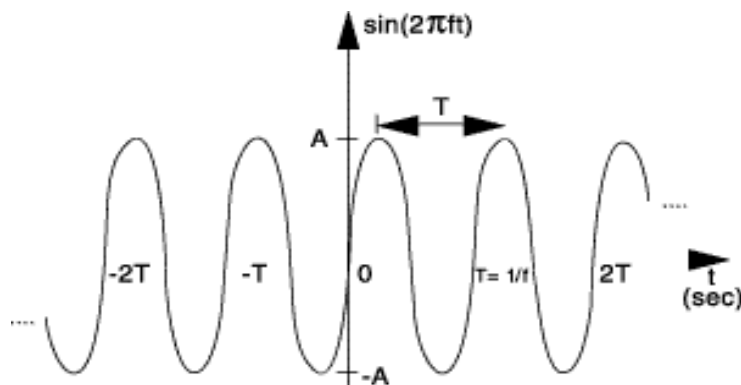

Figure A-2. Sine wave with amplitude A , frequency f , and period T .
The sine wave equation: All of us should have studied the sine and cosine trigonometric functions in math and physics classes. A sine wave is described by an equation of the form $v(t) = A \sin(2\pi ft) = A \sin(\omega t)$, where the variable t represents time. We use the term "wave" because the shape is similar to a water wave that you might see on an ocean or a lake. As shown in **Figure A-2**, a sine wave is characterized by two parameters, called amplitude (A) and frequency (f). The amplitude A determines the maximum value that the sine wave achieves along the vertical axis. The sine wave takes on values between $+A$ and $-A$ at various times.